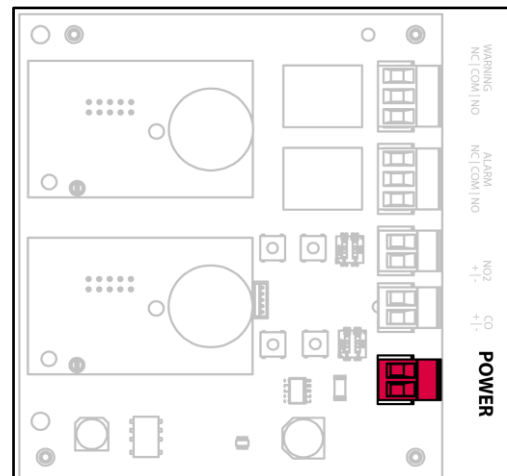

FIGURE 6: Location of Power Connector
1. Power down the controller,. This can be done by unplugging the controller power terminal (See Figure 6).
Power connection to the controller is made at the two-terminal screw connector located at the bottom-right side of the board (highlighted in Figure 6). Power to the controller can be either AC or DC voltage; DC voltage can be connected in either polarity.